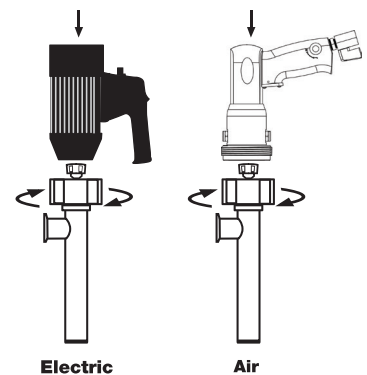

Figure 1
3. Couple the motor to the pump tube by using the Connection Nut (see Figure 1).